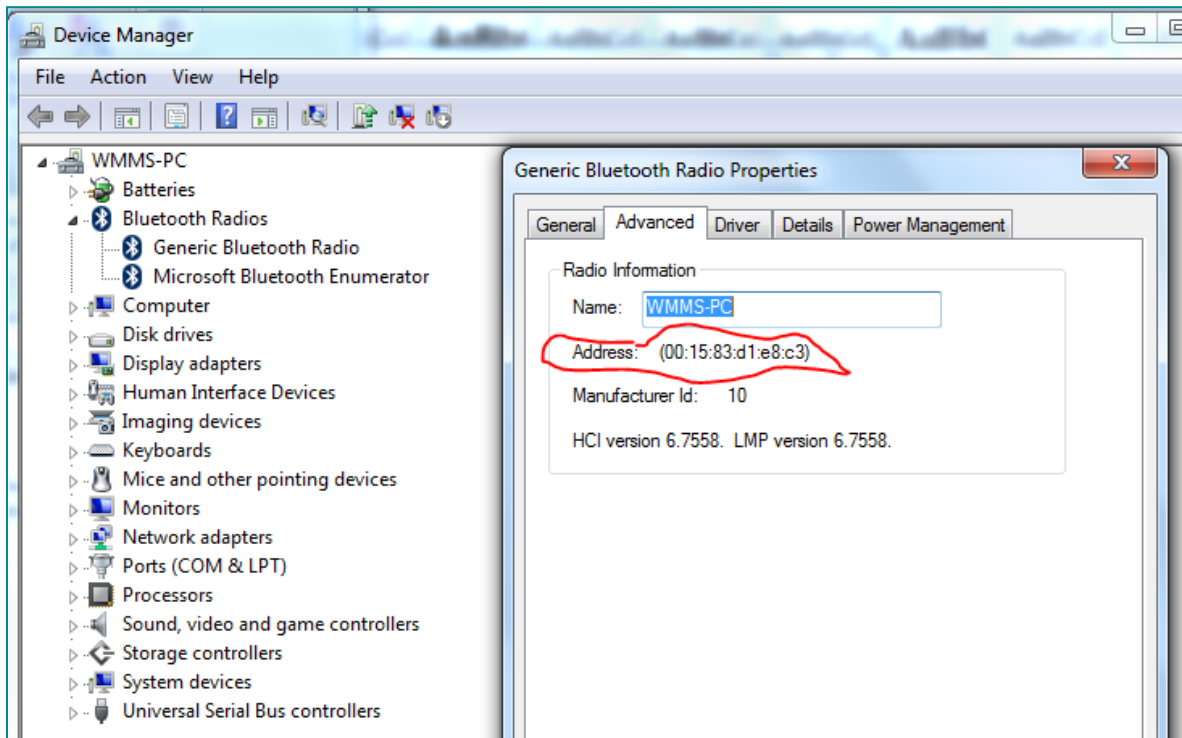

Figure 4-11. Locating the MAC address of the Bluetooth dongle.
4. Click the “**Advanced**” tab on the “**Generic Bluetooth Radio Properties**”. You should see a “window” like the one shown in Figure 4-11.
5. The numbers next to the word “Address” in Figure 4-11 are the MAC address of the Bluetooth dongle. For example, the MAC address of the Bluetooth dongle corresponding to Figure 4-11 is 0x00:0x15:0x83:0xd1:0xe8:0xc3 (00:15:83:d1:e8:c3), where the prefix “0x” simply indicates that the number is given in hexadecimal. The MAC address will be used to connect the Sony PS3 controller to the Bluetooth dongle.